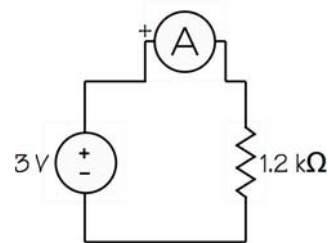

Fig. 4—Ammeter inserted
8. Touch the DMM's black lead to the top of the resistor. Figures 4 and 5 show these connections.